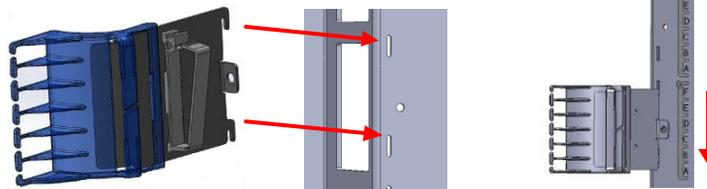

Figure 12
6. Attach the rear routing guide on to the rear side wall plate (Figure 12).